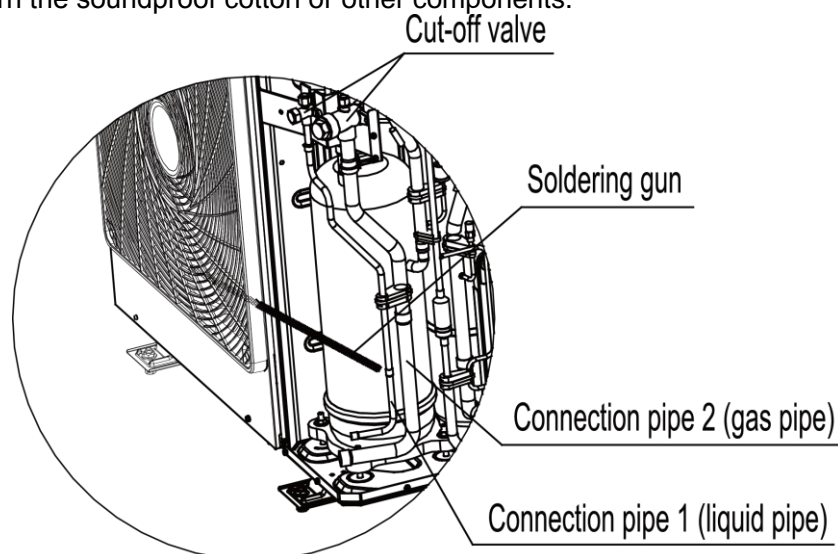
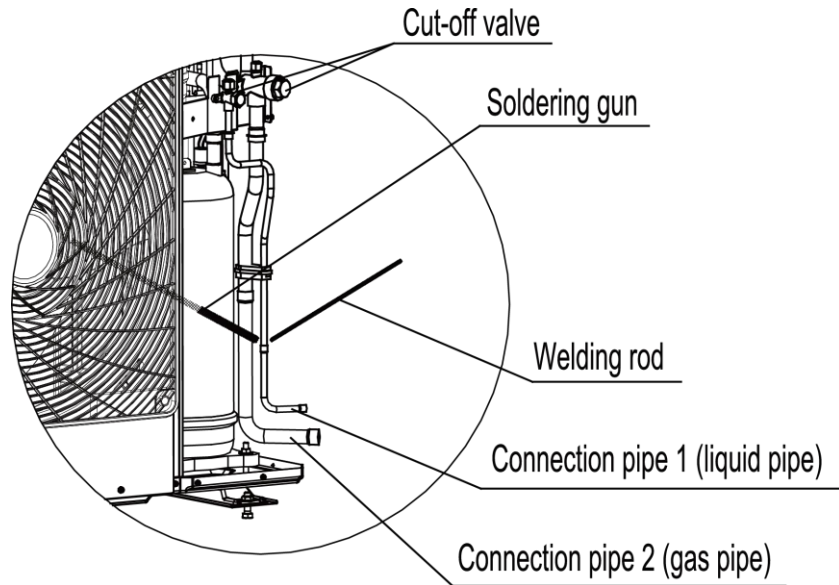

Fig. 17
Fig.18
- (3) If connection pipe is connected at the front, no special treatment is needed. You can weld the pipeline directly to connection pipe 1 and connection pipe 2.
- (4) If connection pipe is connected at the side as shown in Fig.17 and Fig.18, open the front side plate, rear side plate and connection board. Then open the soundproof cotton. Use a soldering gun to unsolder connection pipe 1 and connection pipe 2. Rotate them to a proper angle and install them to their respective position. Seal the apertures with welding rod. First weld connection pipe 1 (liquid pipe) and then weld connection pipe 2 (gas pipe). During welding, it's necessary to use wet gauze to wrap up the filter near connection pipe 2 and the two cut-off valves. Make sure the flame won't burn the soundproof cotton or other components.
- (2) Y-type branch has several pipe sections with different dimension, which facilitates to match with various copper pipes. Use pipe cutter to cut in the middle of the pipe section that is of proper dimension and remove burrs as well. See Fig.17.
- (3) Y-type branch must be installed vertically or horizontally.
- 4) Joints of indoor and outdoor unit should be wrapped with insulating material and leave no gap between pipe and wall. See Fig.18.